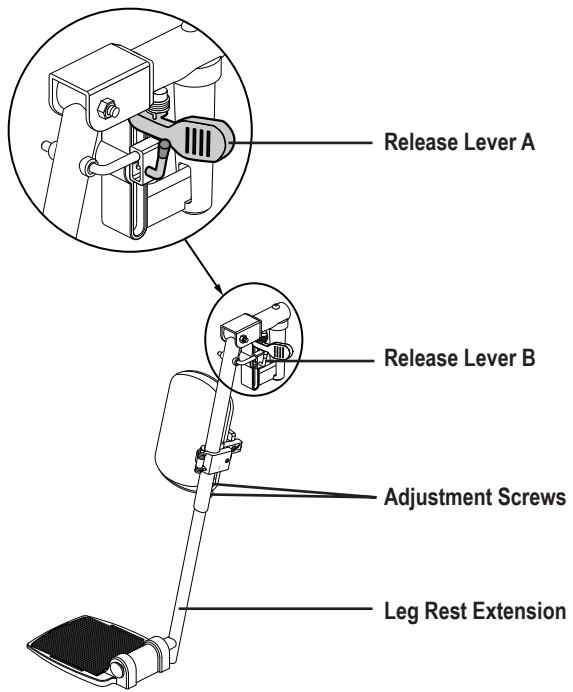

Figure 7. Standard Elevating Leg Rests
1. Push down release lever B. **See figure 7.**
1. Remove the two adjustment screws from the side of each leg rest extension. **See figure 7.**